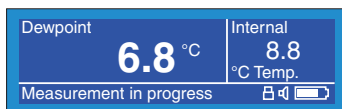

Figure 4.4 - Typical screen display start-up
5. After the initialization period has timed out, the instrument is operational and will display a dewpoint reading in accordance with the default parameters shown in Table 4.1. A typical screen example is shown in Figure 4.4.
Note that the menu structure menu does not have to be entered in order to change the parameter displayed in the primary display area. This can be changed by pressing either the ▲ (up) or ▼ (down) scroll keys e.g. pressing ▲ (up) scroll key in the example shown in Figure 4.4 would change the displayed parameter and units to Absolute humidity (gm/m³).